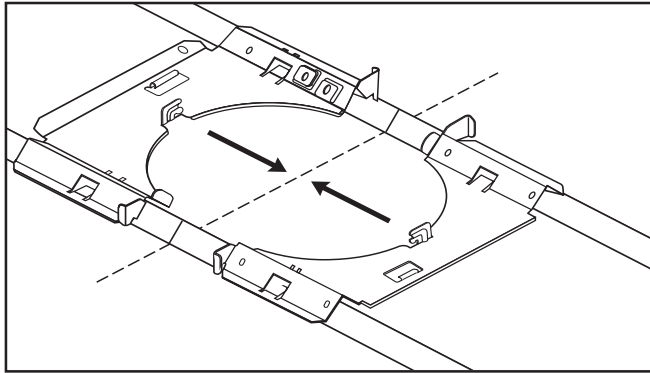

Figure 7
- 1a.** For Model 8 loudspeakers, push both halves of the ceiling pan together (Figure 7). Center the support rails by lining up the space between the two halves of the pan with the center marks on the rails.